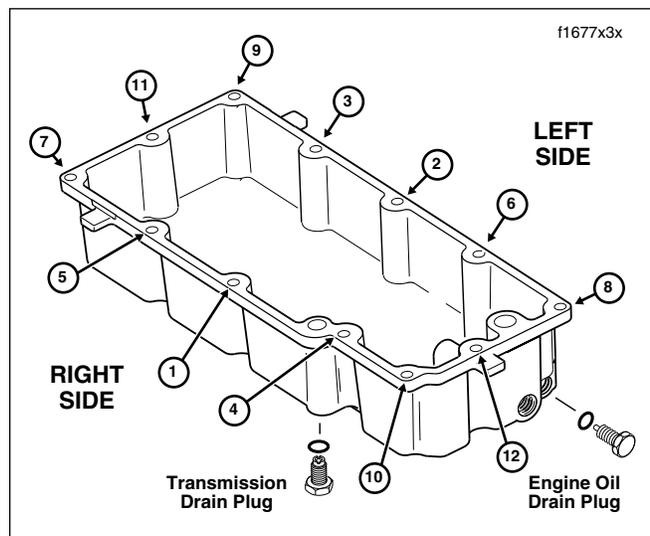

Figure 7-52. Oil Pan Torque Sequence
- See Figure 7-52. Remove both the engine oil and transmission lubricant drain plugs from the oil pan. Drain the fluids into suitable containers.
5. Tighten the oil pan screws to 84-132 **in-lbs** (9.5-14.9 Nm) following the numerical sequence shown in Figure 7-52.